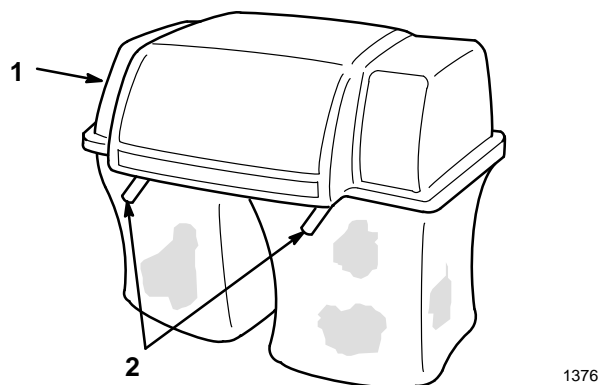

Figure 25
6. Lower the bagger top onto the bags. Then push down on both bag retainer handles until they lock on the bag frame (Fig. 25).